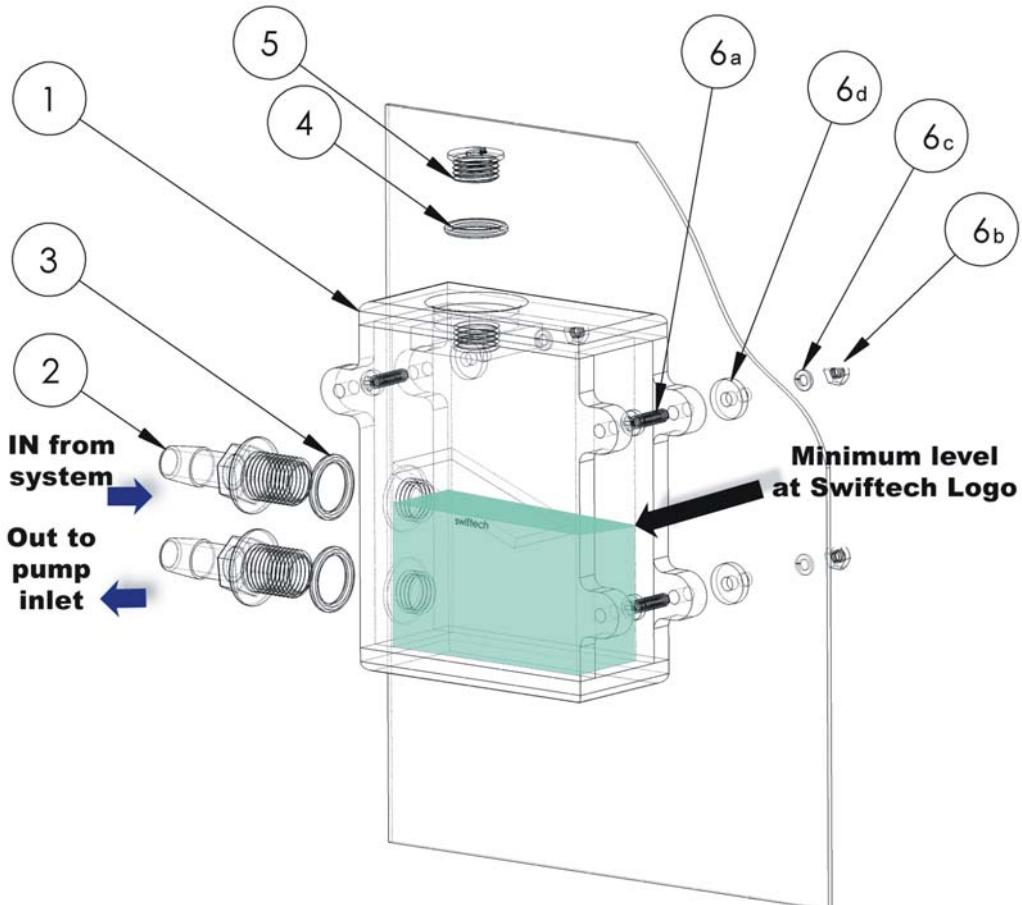

Figure 1
- Upper port: "In from system" shown in figure 1 is the return line from the system
- Lower port: "Out to pump inlet" shown in figure 1 should be connected to the pump inlet.
- Permanent mount with the provided mounting hardware as shown in figure 1 page 1, and various examples on page 3.